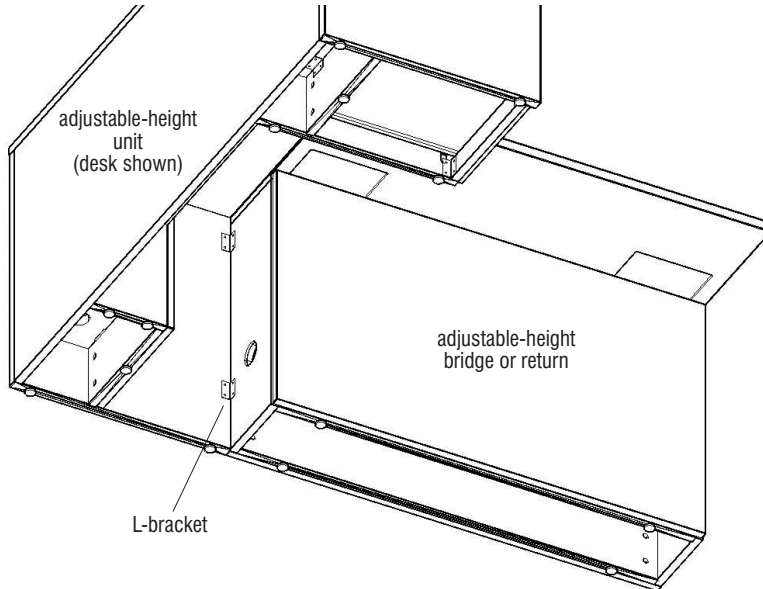

Figure 2
2. Position the adjustable-height bridge or return flush against the adjustable-height unit with L-brackets. Attach the properly positioned bridge or return to the adjustable-height unit using two 5/8" screws per bracket (Figure 2).